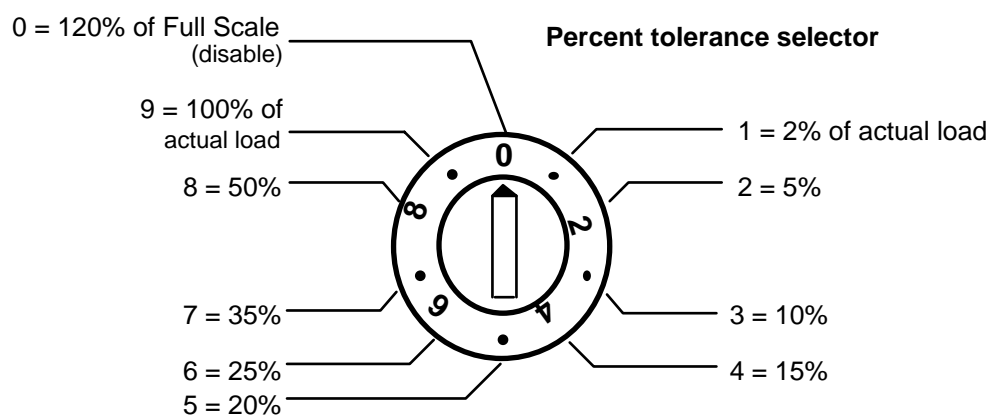

Figure 4-2. Percent tolerance selector switch
3. Look at Figure 4-2 to become familiar with the selector settings. The selector dial has settings from 0 to 9. Each setting represents a percent. The first dot right of 0 is 1. 1 = 2%; 2 = 5%; 3 = 10%; 4 = 15%, and so on.